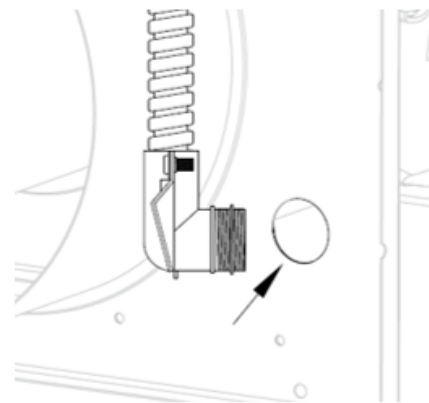

Figure 6.3 - Electrical Hole Rear Plate
4. Install #KPV wiring harness through the electrical access hole in the back cover cap. See Figure 6.3.